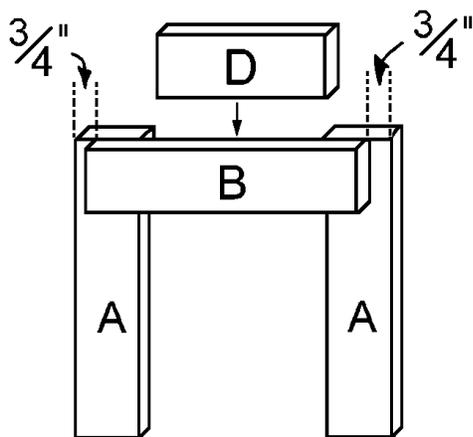

Figure 2
5. The front is shown in *Figure 2*. Assemble two legs (A) and one front/back connector (B), spacing them as shown. Again, the pieces are flush at the top, and there is a 3/4" offset at the sides. Use two screws at each end of the front/back connector (B) to secure the legs (A). Attach the front/back spacer (D) between the legs using three screws driven through the front/back connector (B) into the front/back spacer (D).